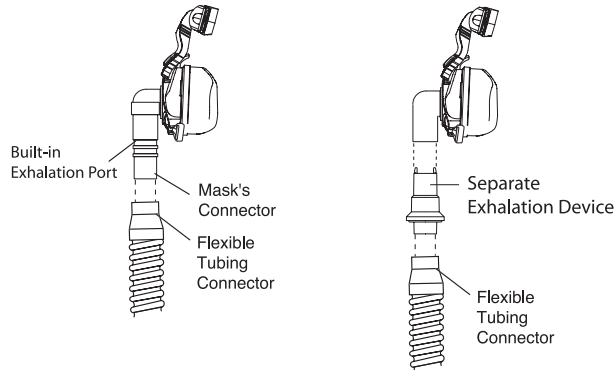

FIGURE 3-4 CONNECTING A MASK
- a. If you are using a mask with a built-in exhalation port, connect the mask's connector to the flexible tubing, as shown in Figure 3-4.
- b. If you are using a mask with a separate exhalation device, connect the open end of the flexible tubing to the exhalation device as shown in Figure 3-4. Position the exhalation device so that the vented air is blowing away from your face. Connect the mask's connector to the exhalation device.